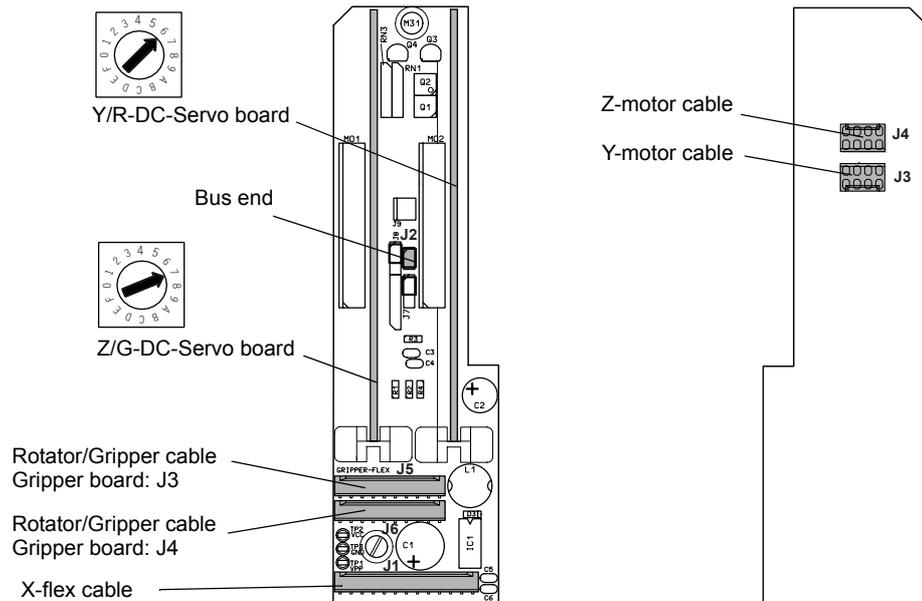

Figure 6-91 RoMa 1 backplane connections (component side: left, solder side: right)
- Refer to Figure 6-91, 'RoMa 1 backplane connections \(component side: left, solder side: right\)' for correct connections to the RoMa 1 backplane.